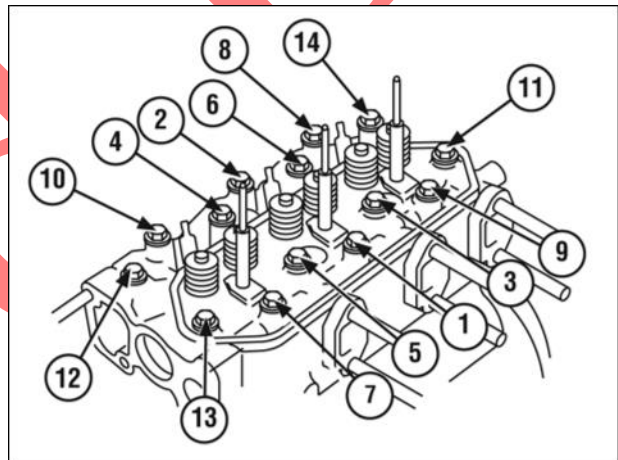

Figure 30
4. Torque head bolts in 10 ft. lbs. (13.0 Nm) increments in sequence shown (Figure 30).